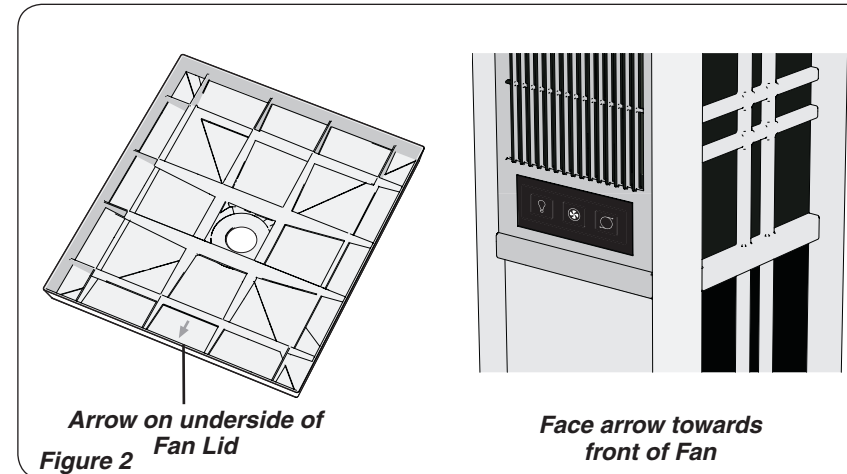

Figure 2
4. Place **Fan Lid** on top of Fan with arrow on the underside of **Fan Lid** facing the front of the Fan where the control buttons are located. (Figures 2 and 3)